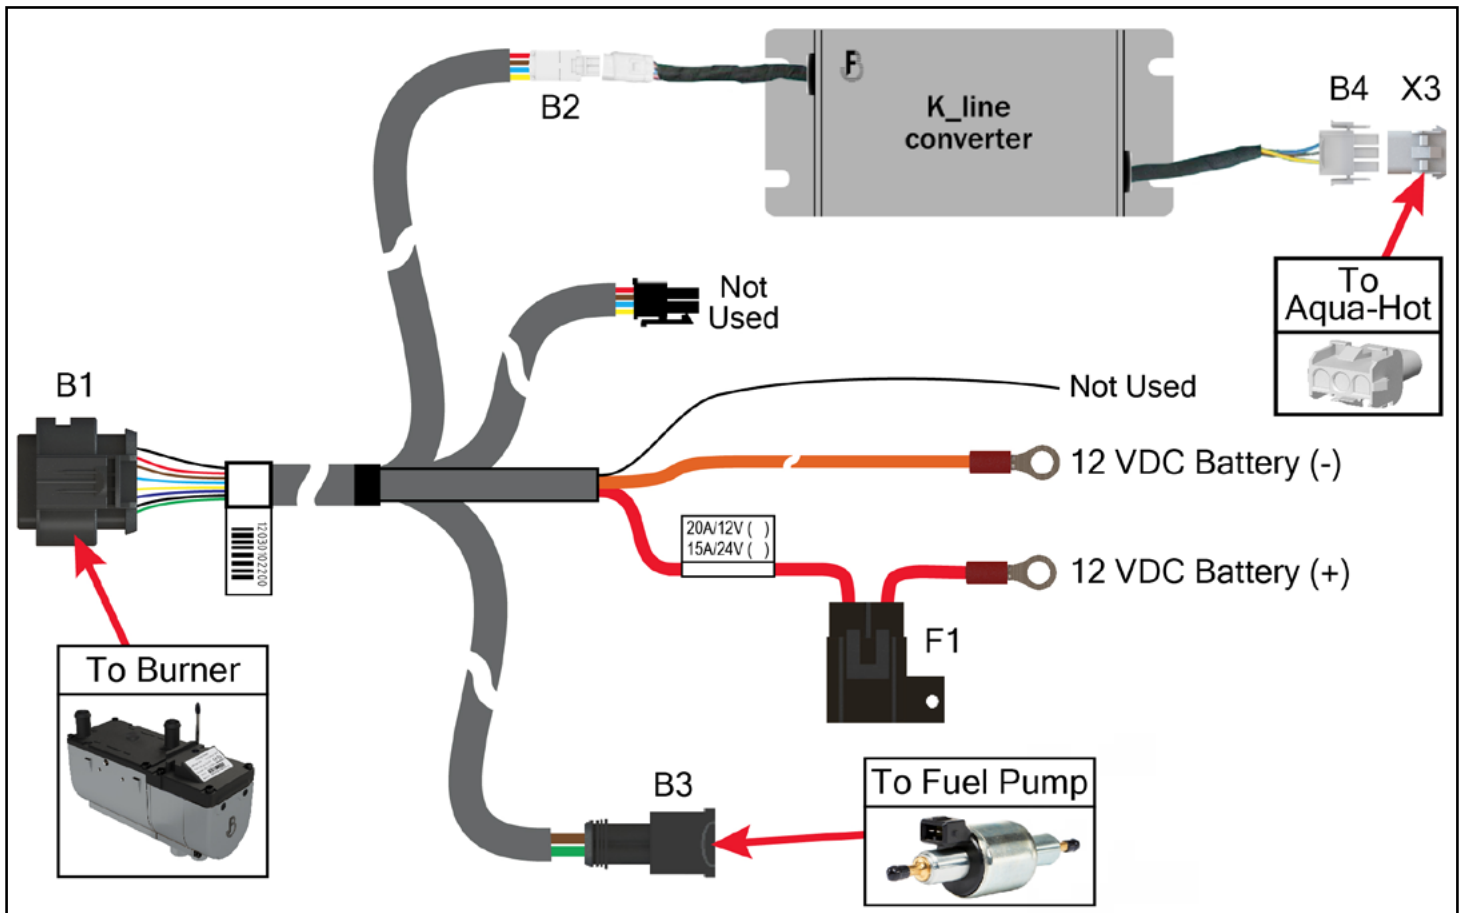

Figure 49
1. Refer to Figure 49 for harness installation.